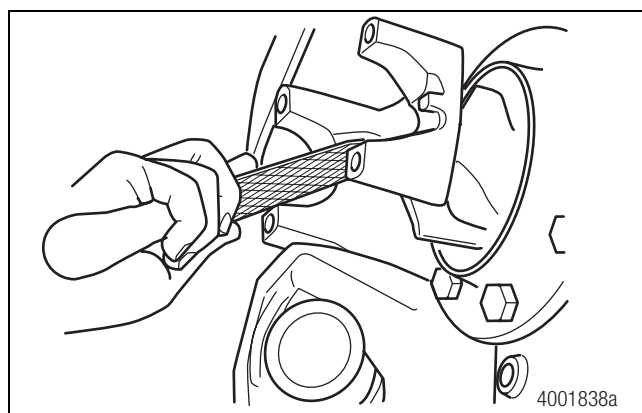

Figure 4.7
4. Inspect all end yoke cross hole surfaces and bolt hole threads for damage. Remove raised metal or fretting with a fine-tooth file or emery cloth. Figure 4.7.